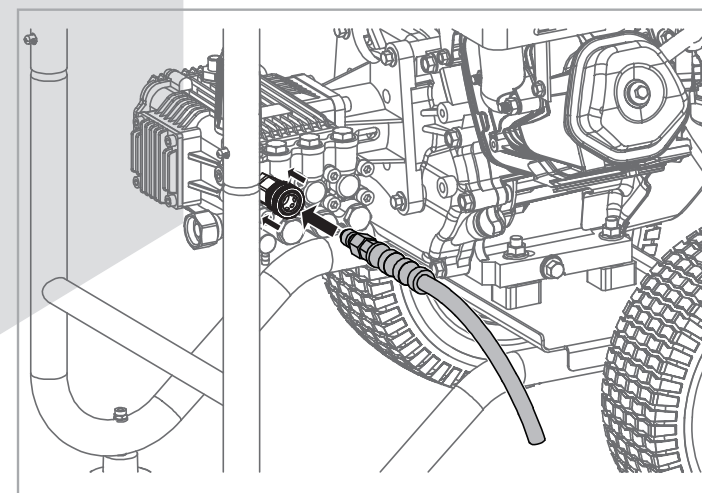

Fig 9
- c. Uncoil and straighten the high-pressure hose to prevent kinks. Connect the open end of the high-pressure hose to the high-pressure outlet by pulling the quick connect collar back, inserting the high-pressure hose and releasing the collar. Pull firmly on the hose to ensure it is secure. Fig 9